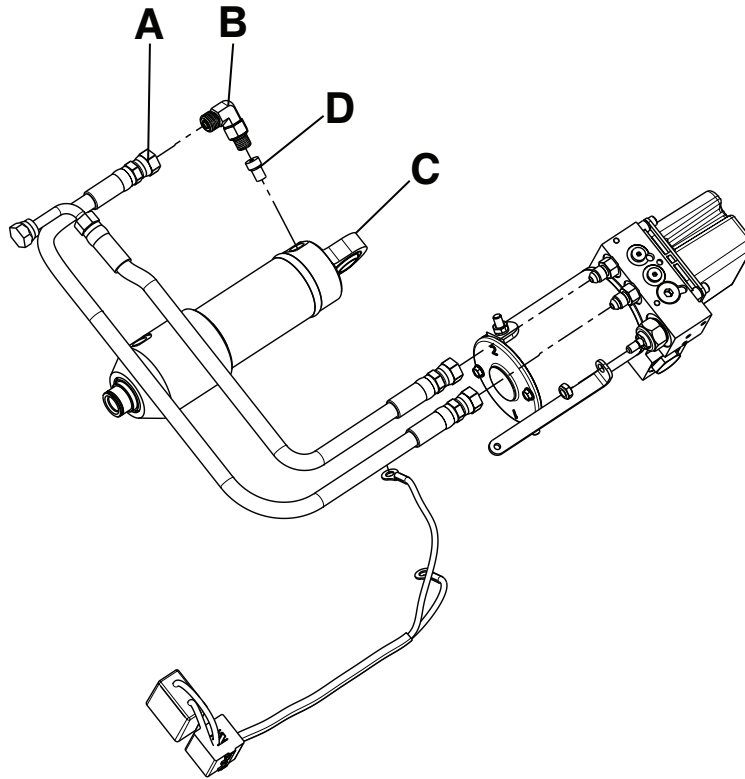

Figure 30: Velocity fuse components
3. Using an 11/16" combination wrench, disconnect the hydraulic hose (A) closest to the mounting bracket at the head end of the trolley (Figure 30 on page 62).
4. Using a 5/8" combination wrench loosen (do not remove) the jam nut on the cylinder hose fitting (B) and unthread the fitting from the hydraulic cylinder (C) (Figure 30 on page 62). Save all parts for reinstallation.
5. Using a 1/8" hex wrench remove the velocity fuse (D) from the hydraulic cylinder (C) (Figure 30 on page 62). Discard the fuse.
**Note:** When reinstalling the cylinder hose fitting (B) lubricate the O-ring with ATF and only thread the fitting in until you feel resistance. When aligning the fitting for proper position, do not back out more the 340 degrees from where resistance was felt. Using a torque wrench, torque the jam nut of the fitting to 190±10 in-lb.